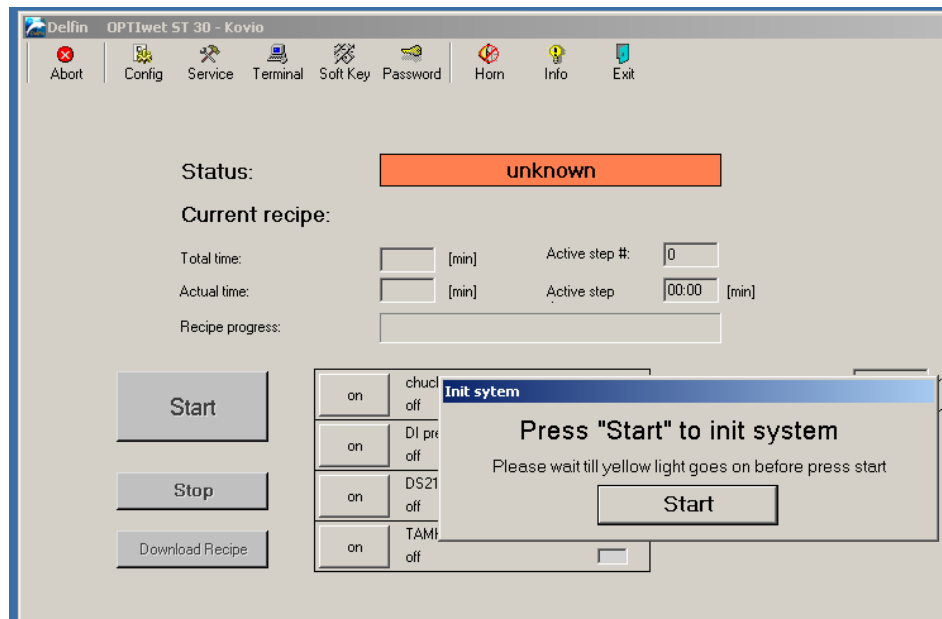

Figure 4: Start Window
5. Click the Start button to initiate the system. See Figure 4.